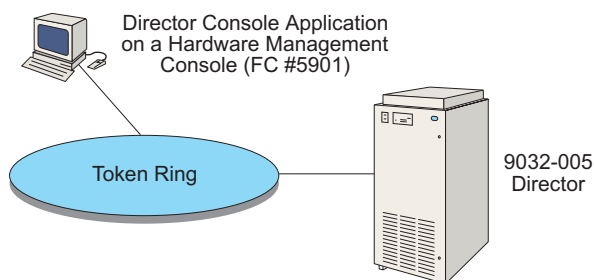

Figure 30. Director Console Application on a Hardware Management Console
3. The S/390 Server's Hardware Management Console (Figure 30).